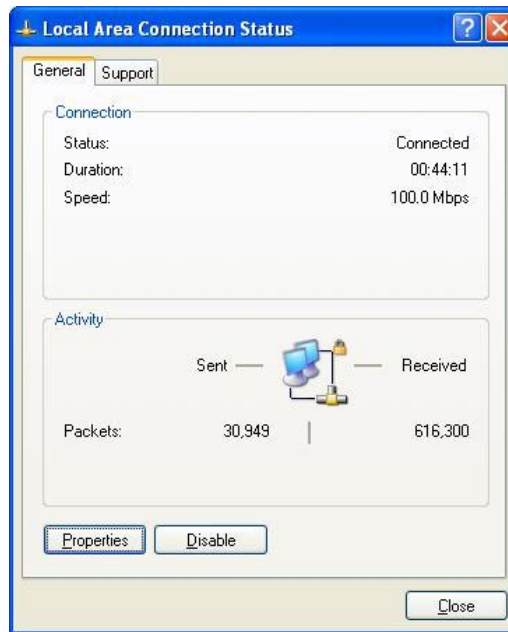

Fig. 3-3
Step 2: Double click to open "Local connection". (Fig. 3-3)